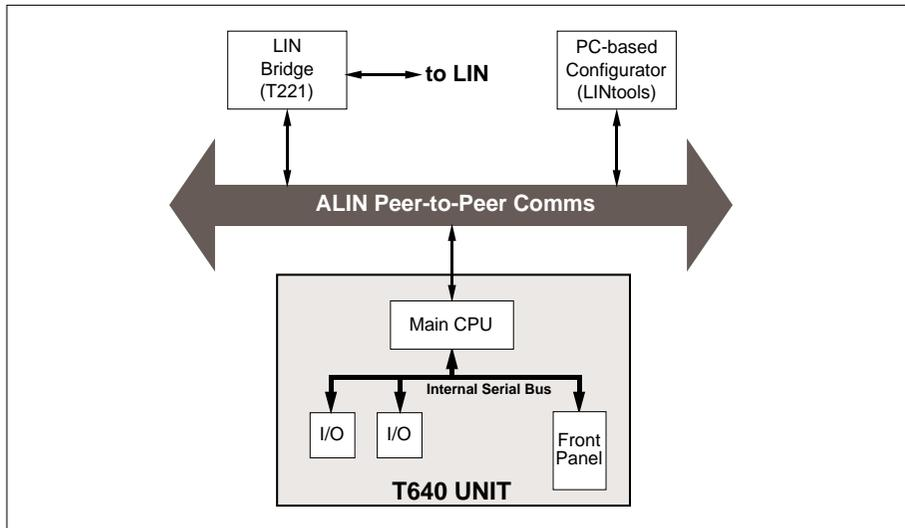

Figure 7-2 ALIN communications schematic
**ALIN peer-to-peer comms.** A high-speed (2.5Mbaud) short-distance form of the LIN, the ALIN is the main communications channel in the instrument, used for configuration, supervision, and inter-instrument communication. See Figure 7-2. It supports all current LIN features — block attachments, field writes, file transfers, etc. — except channel redundancy. ALIN and LIN can be interconnected via a T221 bridge.